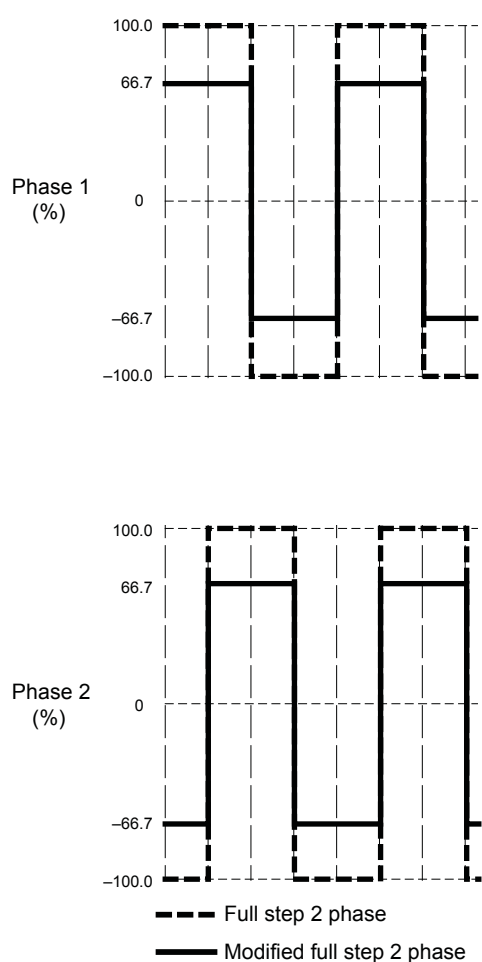

Figure 5. Step Sequencing for Full-Step Increments.
**Mixed Decay Operation.** The bridge operates in Mixed Decay mode, as shown in figures 5 through 7. As the trip point is reached, the A4986 initially goes into a fast decay mode for 31.25% of the off-time,  $t_{\text{OFF}}$ . After that, it switches to Slow Decay mode for the remainder of  $t_{\text{OFF}}$ . A timing diagram for this feature appears in figure 4.